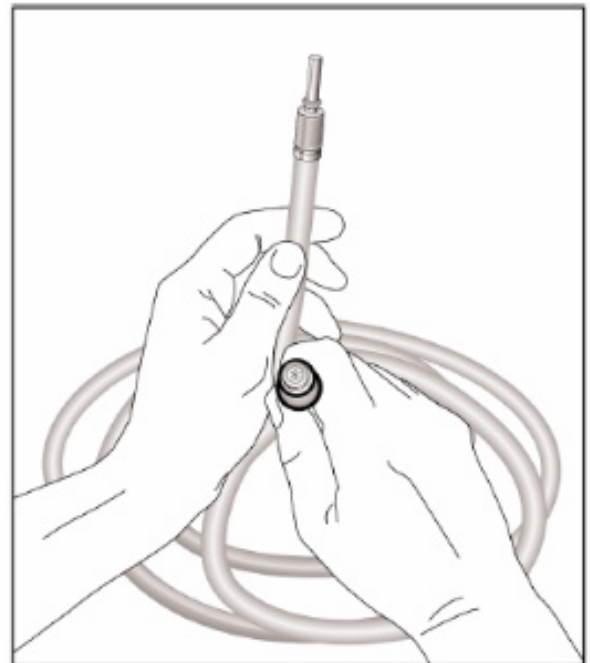

Figure 7: Fiber Optic Cable Inspection
2. While aiming one end of the cable toward a bright light, inspect the other end for damaged fibers, e.g., black dots or dark areas (Figure 7). Excessive numbers of broken fibers in the cable will result in reduced light transmission.